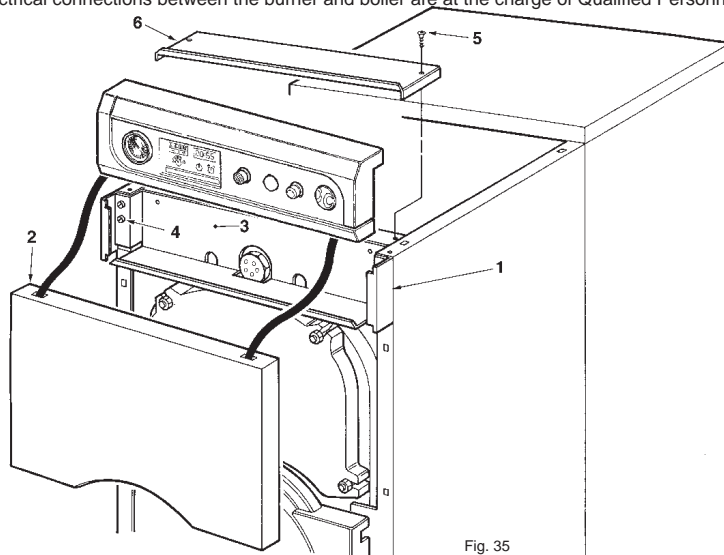

Fig. 35
5.13 (Fig. 35) Fix angle 1 (right-left), assemble the panel 2 and the control pannel. Fix safety box 3 by self-threading screw 4 inside the angles 1. Insert the board on the panel 2 and fix sideways with the screw 5 Cover the board with the safety cap 6.